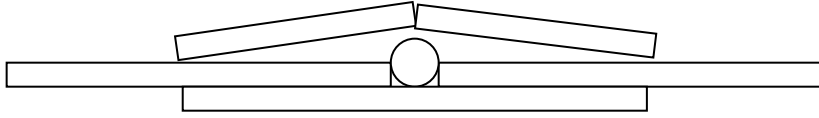

Figure 4. If the shank diameter is too big the overlying slate will crack.
3. If the shank is too thick resulting in the overlying slate resting on it rather than on the two underlying slates there is a risk of breakage (Fig 4). The shank diameter should always be less than the thickness of the two adjacent slates.